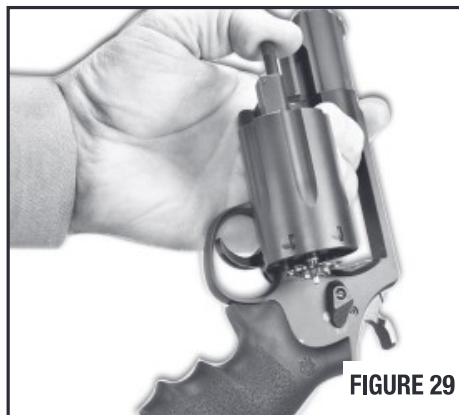

FIGURE 29
- To unload the revolver, point the barrel in a safe direction, open the cylinder and tip the muzzle upward. Press the extractor rod toward the cylinder (FIGURE 29) and remove all cartridges or empty casings from the cylinder. The cartridges or empty casings will stay in the moon clip until they are physically pulled free from the clip.